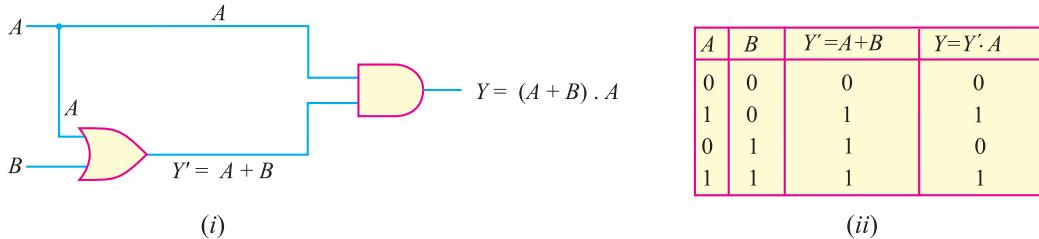

Fig. 26.15
**Example 26.11.** Obtain the truth table for the circuit shown in Fig. 26.15 (i).
**Solution.** Figure 26.15 (ii) shows the truth table for the circuit. The truth table can be obtained very easily if the reader remembers the following simple Boolean operations :